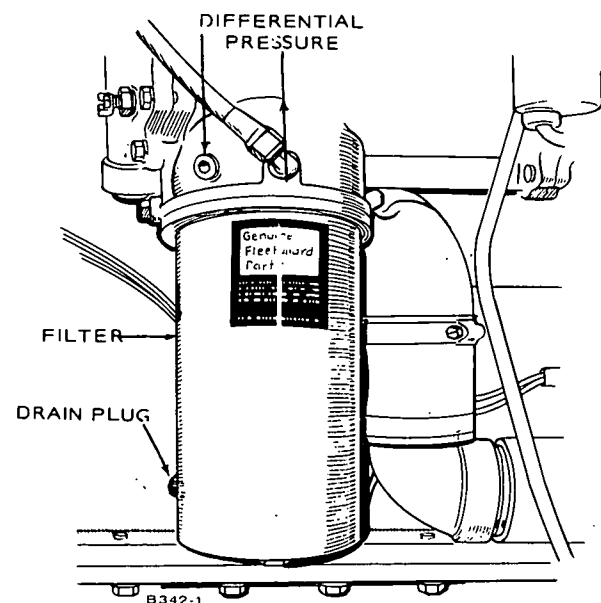

FIGURE 26. LUBRICATION OIL FILTER
1. Remove drain plug (see Figure 26) and allow oil to drain.